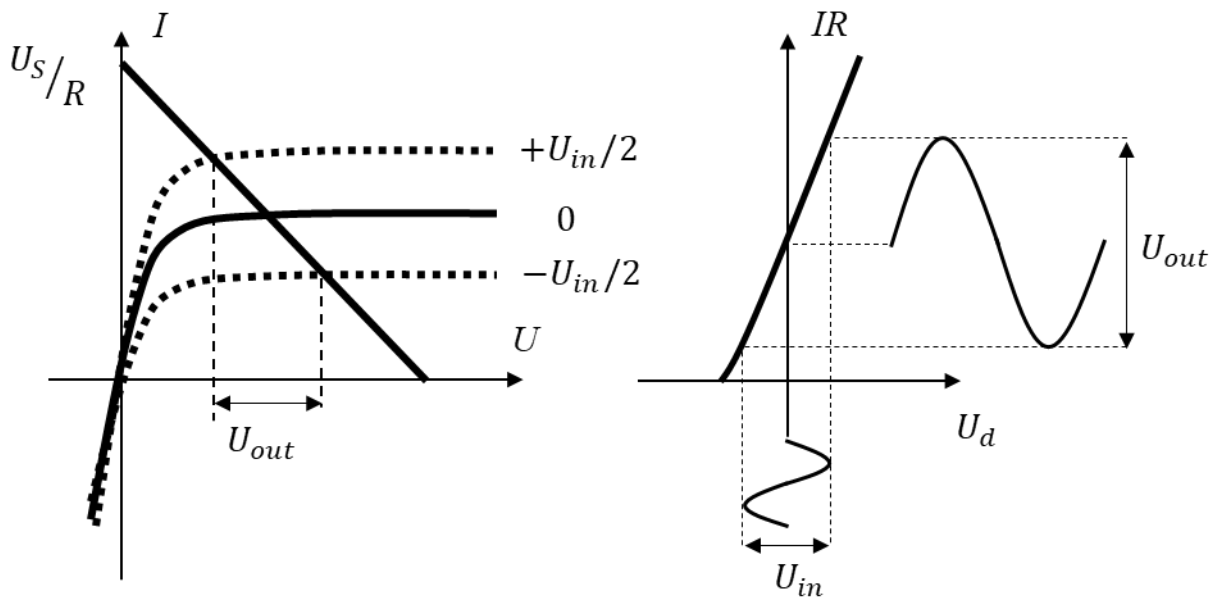

Fig. 10. Operation of voltage amplifier.
As seen, the straight line defined for a certain resistor value by Eq. (8) intersects the transistor I - V curve in the current saturation domain. The saturation current depends on the voltage across the gate and the source. Therefore, the current flowing through the resistor and the voltage across it vary under a variation of the gate voltage. Given a correctly chosen resistor, the change of resistor voltage can exceed the change of gate voltage. Let us illustrate this statement (see Fig.10).